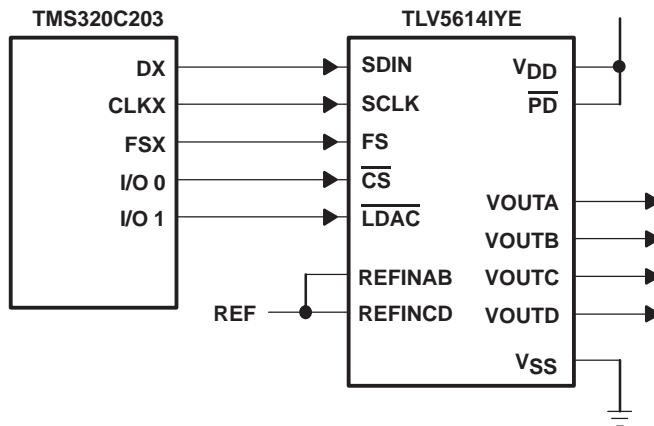

Figure 18. TLV5614IYE Interfaced With TMS320C203
Figure 18 shows an example of how to connect the TLV5614IYE to a TMS320C203 DSP. The serial port is configured in burst mode, with FSX generated by the TMS320C203 to provide the frame sync (FS) input to the TLV5614IYE. Data is transmitted on the DX line, with the serial clock input on the CLKX line. The general-purpose input/output port bits I/O0 and I/O1 are used to generate the chip select (CS) and DAC latch update (LDAC) inputs to the TLV5614IYE. The active low power down (PD) is pulled high all the time to ensure the DACs are enabled.